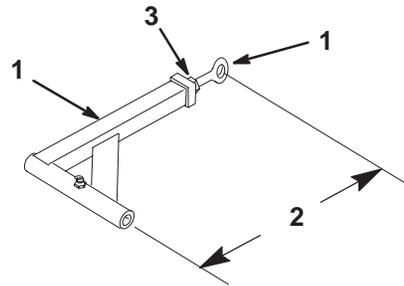

Figure 58
11. If the fixed idler contacts the end of the adjustment slot and more belt tension is required, a small change in the lengthen the push arms can be made (Fig. 58).
12. To adjust push arms, loosen jam nut and rotate ball joint counterclockwise, one turn at a time. Adjust each side the same amount (Fig. 58).